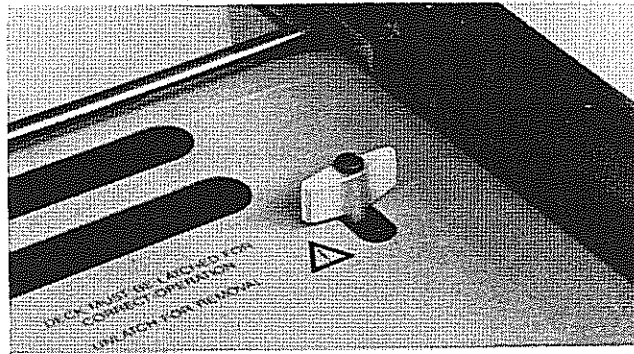

FIGURE 4.5 REMOVAL OF MAIN DECK - GROUP 1
- G. **REMOVE THE MAIN DECK (GROUP 1).** Rotate the Main Deck Retainer (Figure 4.5) parallel with the slot, then lift out the Main Deck and Hood Seat Gasket.